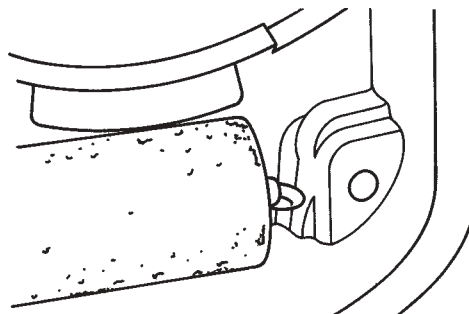

Figure 3.3.7
1. Inspect the condenser for signs of corrosion. This condition is cause for component rejection. (See Figure 3.3.7).